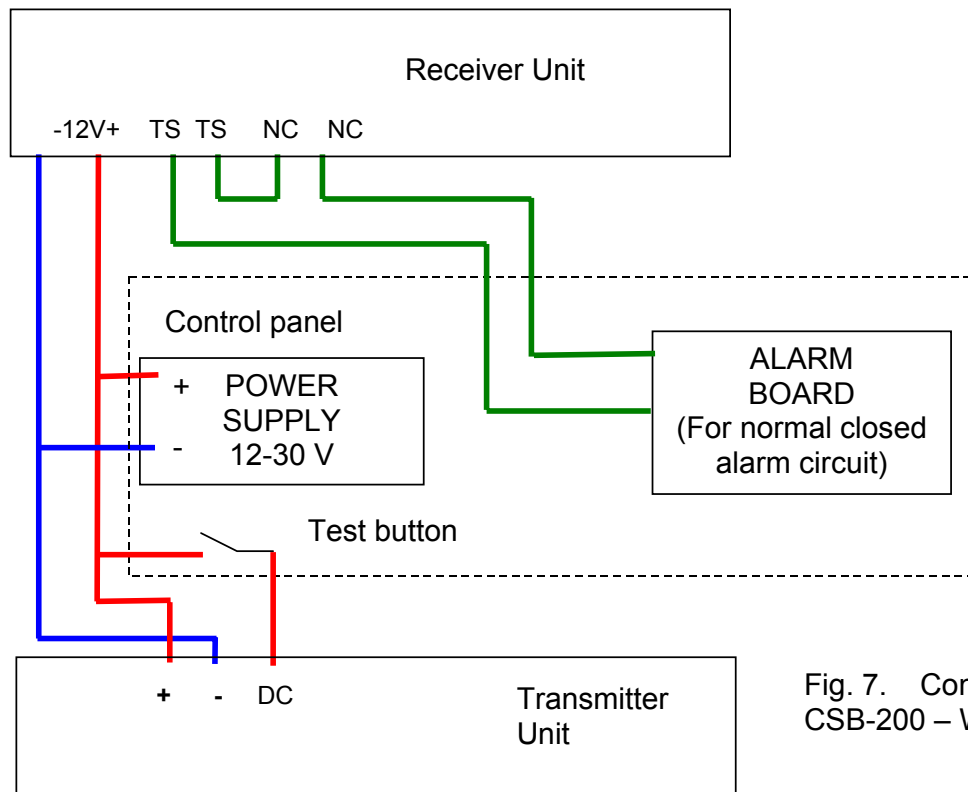

Fig. 7. Control Unit and CSB-200 – Wiring Diagram
2. Make sure you switched on the power supply and outgoing electric circuit of the sensor correctly as shown in fig. 7.